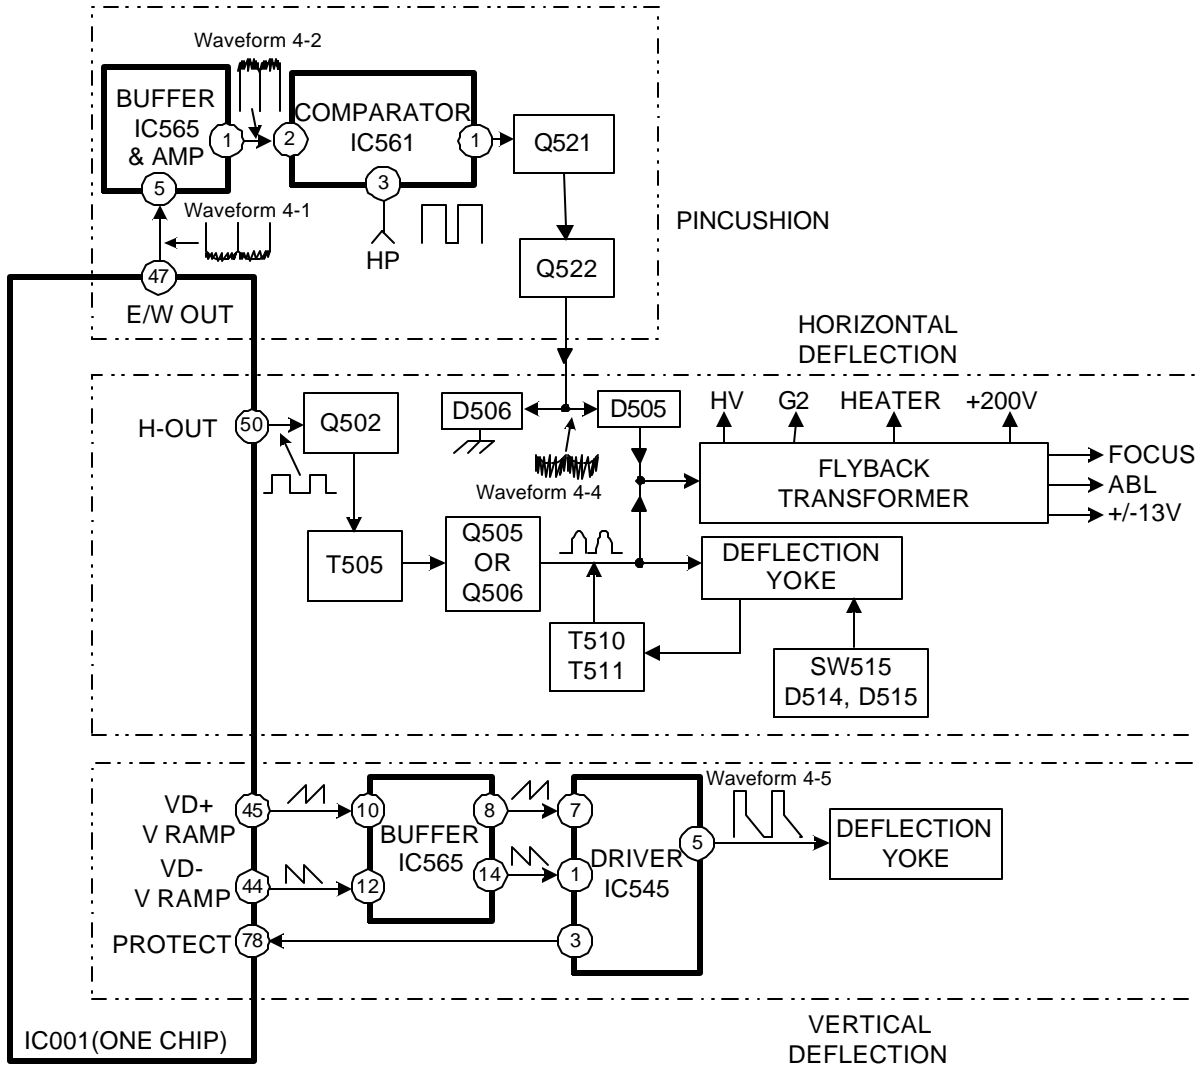

FIGURE 4-1 - DEFLECTION AND PINCUSHION OVERALL BLOCK
**Note:** Reference Figure 4-1 during circuit description.
**Note:** Reference Figure 4-1 during circuit descriptions.